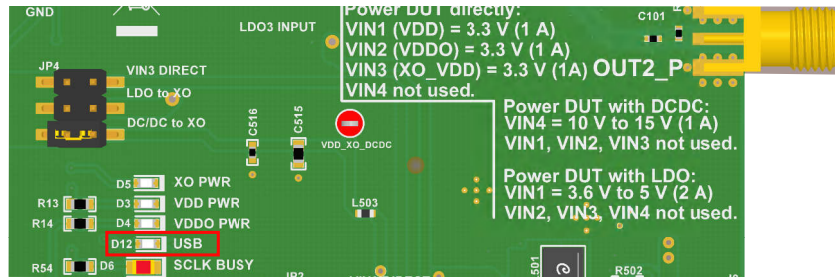

Figure 3-1. USB LED
- iii. Click *Identify* to blink LED shown in Figure 3-1. This confirms you are connected to the board you expect. Be aware that USB2ANY devices connected to the PC but not attached to by a TICS Pro instance can blink at a slow rate of 1 second on, 1 second off continuously. After clicking the *Identify* button, the LED flashes quickly at about 0.5 second on, 0.5 second off for about 5 seconds.